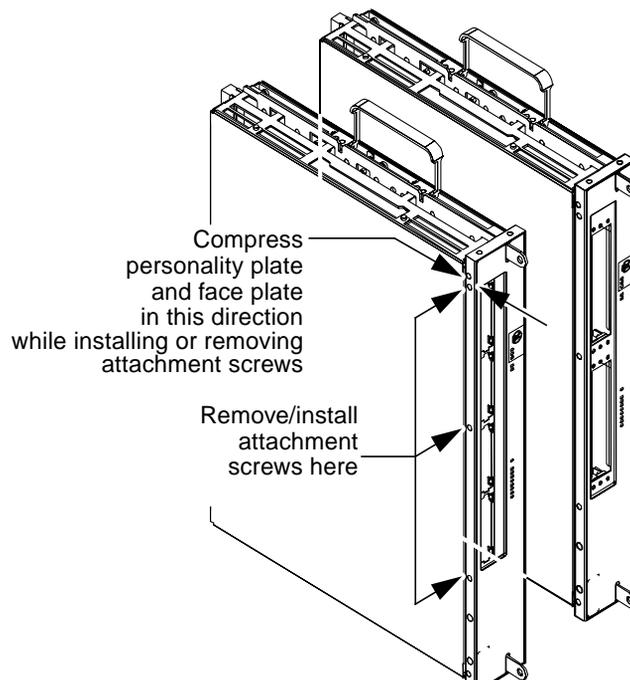

FIGURE 4 Personality Plate Removal
1. Compress the personality plate to the backside of the system board face plate to relieve the stress on the screws, remove the three screws securing the personality plate (FIGURE 4 on page 6).